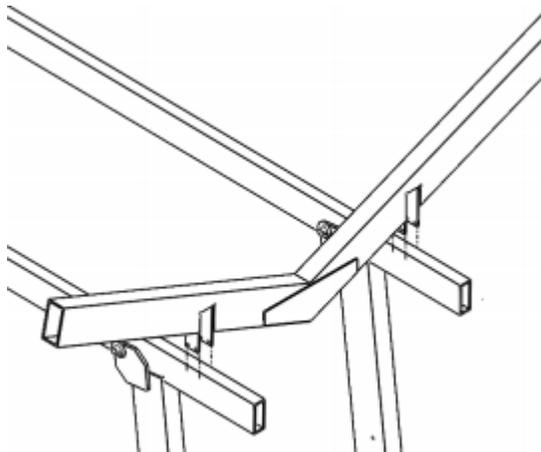

Figure 16
2. Attach one (1) 3/8" Flat Washer to two (2) 3/8" Hex Bolts and insert the Hex Bolts into the corresponding holes on the V-Bunk as shown in Figure 16.
3. Attach one (1) Lock Washer and one (1) Hex Nut to the protruding ends of the Hex Bolts and hand tighten.
4. Repeat these steps seven (7) more times, once for the other side of the V-Bunk, and six more times for the other V-Bunks.